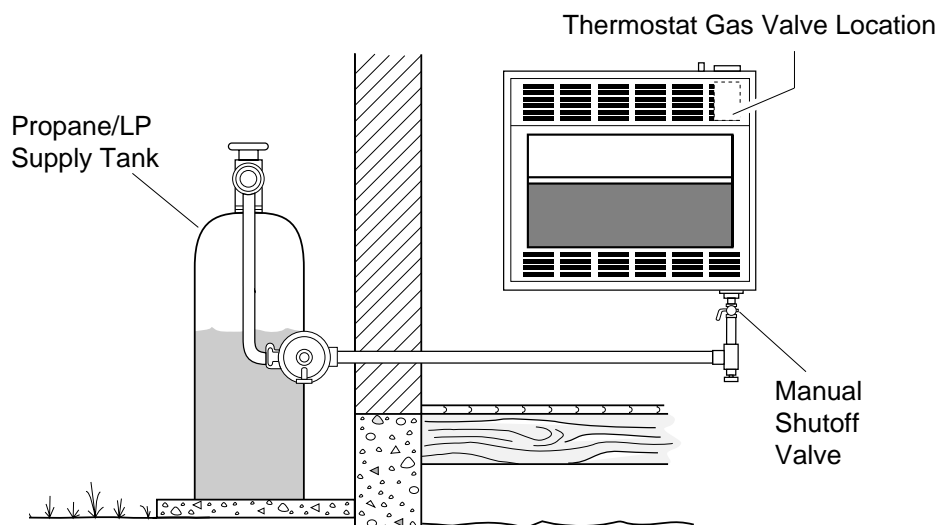

Figure 27 - Checking Gas Joints
3. Check all joints from propane/LP supply tank to manual shutoff valve (see Figure 27). Apply mixture of liquid soap and water to gas joints. Bubbles forming show a leak.
4. Check all joints from manual shutoff valve to thermostat gas valve (see Figure 27). Apply mixture of liquid soap and water to gas joints. Bubbles forming show a leak.